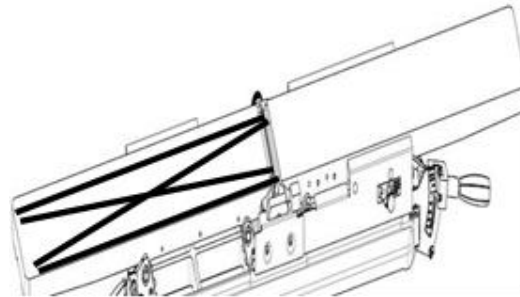

Figure 26: Checking Infeed Table
STEP 5: Place a straight edge in positionssshown in FIG. 26 to make sure outfeed table is parallel with the cutterhead.